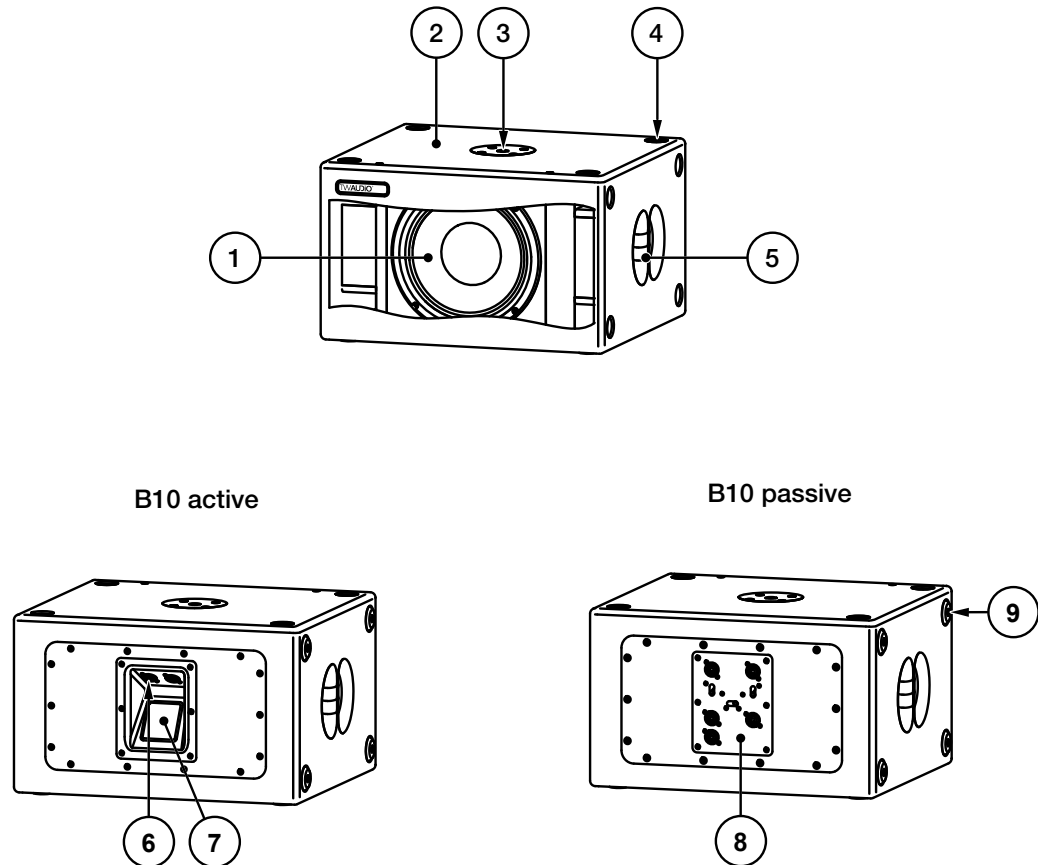

Figure 2.1 - Overview
The integrated passive crossover (item 8 “Figure 2.1 - Overview” on page 7.) has three selector switches that are described in the following chapter.
Make sure that the maximum load of 50kg / 110lbs for the M20 pole mount flange is not exceeded! Figure 2.1 – Item 3.
The M20 pole mount flange (figure 2.1- item 3) is not designed for side forces once mounted – do not apply any pressure from the sides.
Please note that only centered loads are allowed to be placed on the M20 pole mount flange – figure 2.1 – Item 3.